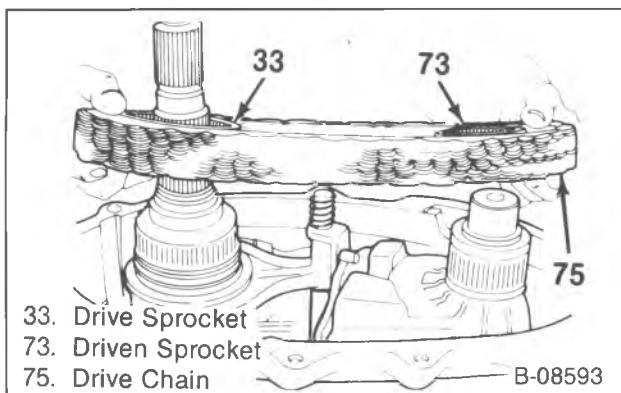

Figure 3—Sprocket and Chain Removal
1. Case bolts (4).
2. Rear case (3) from the front case (54).
4. Driven sprocket retainer ring (74).
5. Drive sprocket retainer ring (35).
6. Thrust washer (34).
7. Drive sprocket (33), driven sprocket (73) and drive chain (75) as an assembly (figure 3).
8. Front output shaft (72) and front thrust bearing assembly (69, 70, and 71).
9. Synchronizer stop ring (30).
10. Synchronizer (27), mode fork bushings (43 and 42), mode fork (44) and bracket (38) as an assembly. The synchronizer keys may fall free from the hub.
11. Shifter fork shaft (41).
12. Mainshaft (1) with the synchronizer hub and retainer ring (26) attached.
13. Annulus gear snap ring (25).
14. Thrust washer (23).
15. Annulus gear (22) and range fork (36) as an assembly.